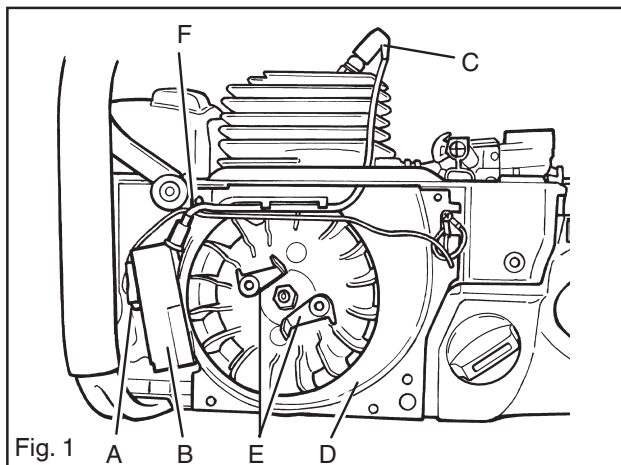

Fig. 1
2. Release the blue lead (A) (which connects to the stop button) from the ignition module (B). See fig. 1.
3. Remove the ignition cable (C) from the spark plug and release both cables from the cable guide (D), and remove the cable guide. See fig. 1.
4. Remove the two M5 bolts and lift off the ignition module (B). See fig. 1.
5. Remove the two pawls (E) for the starter. See fig. 1 and fig. 6.